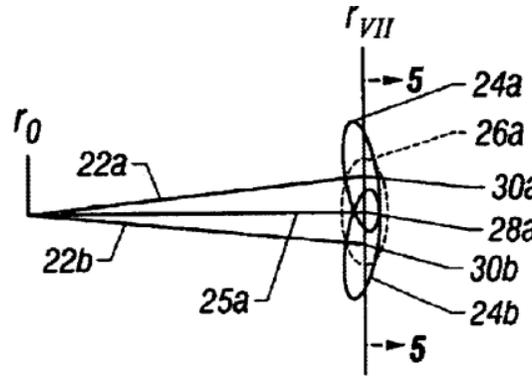

FIG. 4
Fig. 4 - Schematic for the same planned directional well, for the first series of drilling surveys and the first casing gyro survey, where the MAP technique is used to obtain a more accurate updated wellpath position, from which drilling progress will continue.
- SLB SPE Papers suggest this is not a limitation(Fig 4 on Prev Slide)